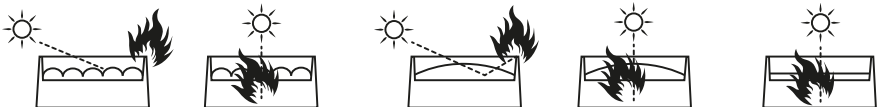

Figure 2. Lenses can focused sunlight and strong light, presenting a risk of fire and damage to the fixture. Shield or shade the head if necessary.
**WARNING!** Position or shade the head so that the front lens will not be exposed to sunlight or any other strong light source from any angle - even for a few seconds. **See Figure 2.** The *Moving Head 60W Spot* lens can focused the sun's rays, creating a potential fire hazard and causing damage.